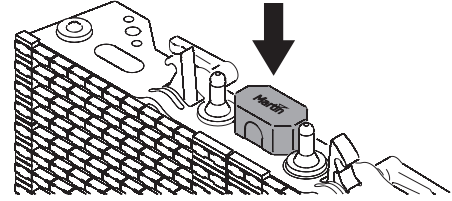

Figure 2: Connector cap
5. Remove the supplied rubber connector caps (see Figure 2) and store them safely for re-use.
4. See Figure 2 on page 3. Any panel connectors that are not being used must be sealed with the supplied rubber caps (arrowed) at all times.